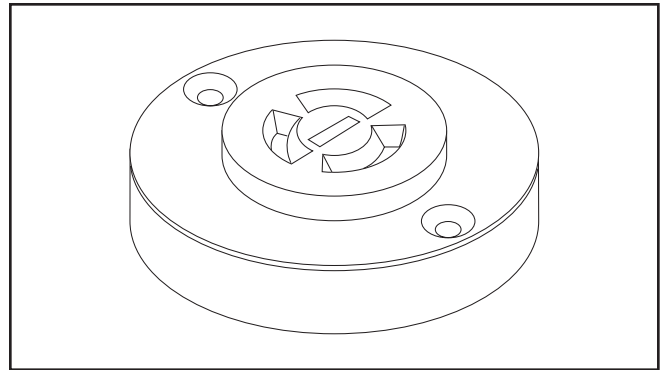

Figure 5.
1. Loosen the two (2) screws to allow rotation of the receptacle. (Figure 5.)